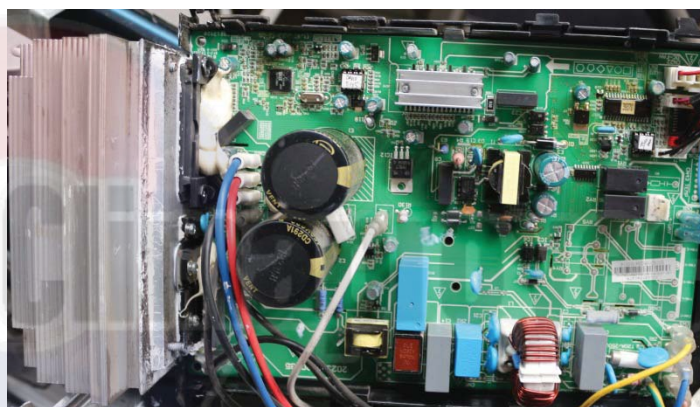

Fig. 16 – Outdoor PCB
**NOTE:** Fig. 16 is for illustration purposes only and may differ from your actual unit.
Use a multimeter to test the DC voltage between the outdoor unit's L2 port and S ports (Fig. 16). The red pin of the multimeter connects with the L2 port while the black pin is for the S port. When the AC is running normally, the voltage moves alternatively between  $-50\text{V}$  to  $50\text{V}$ .